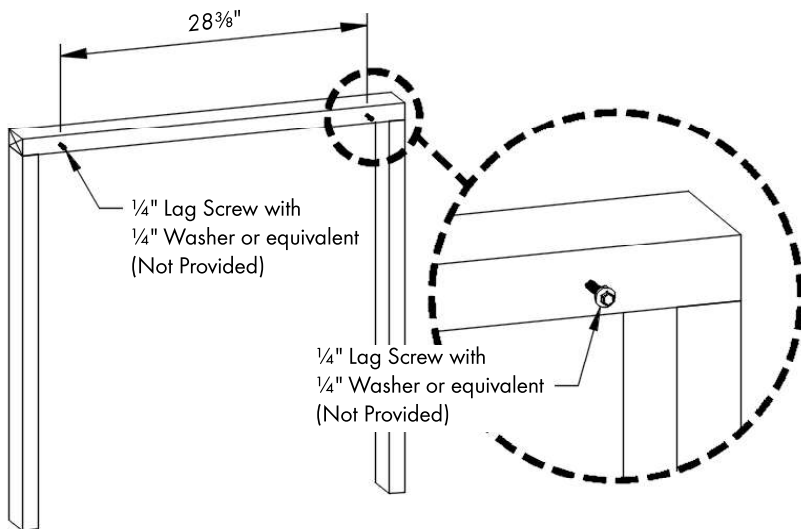

Figure 2A
Install (2) 1/4" lag screws with 1/4" washers or equivalent (not provided) in the top frame member at the distance shown. Leave the mounting screw out a minimum of 1". See Figure 2A and 2B.